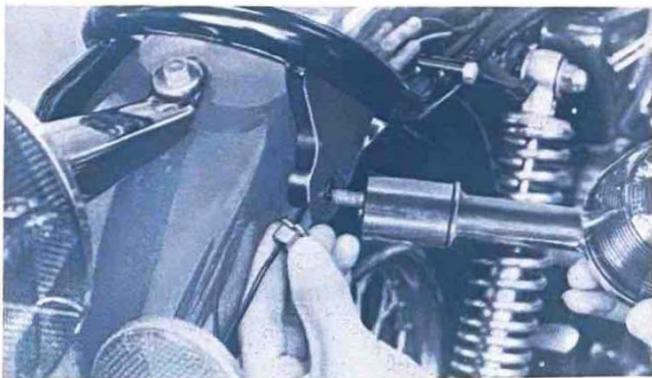

Fig. 41
- (1) Install both flasher light assembly and collar by aligning with the locating pin. (Fig. 41)